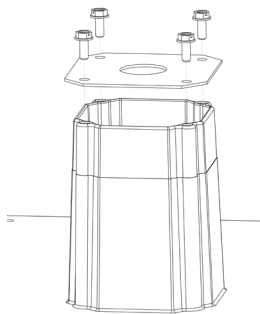

FIGURE 1
- Remove the existing access plate of the ECB fixture. (See Figure 1)